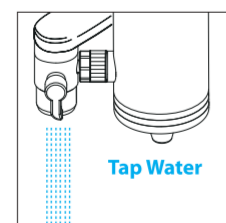

Figure 1.3
- Switch the lever to the downward direction to get tap water. [Figure 1.3]